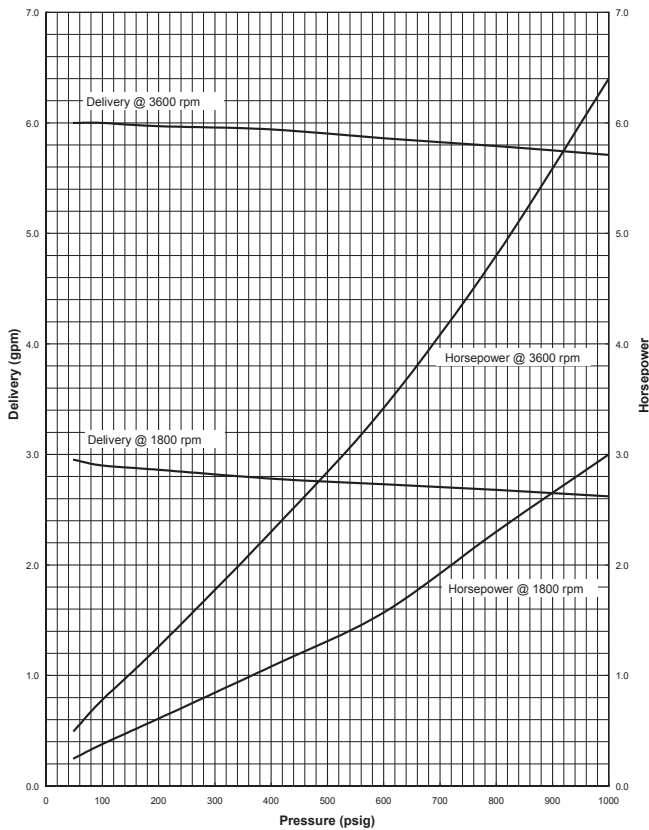

Figure 8. 0.425 cipr Charge Pump Performance
3. Close needle valve to increase charge pump pressure. Compare flow readings to the applicable charge pump performance plot. Refer to **Figures 8 and 9**.
2. Remove the rotating group by turning the drive shaft (1) slowly, while pulling the cylinder barrel (18) from the housing.
3. Identify (number) each pump piston shoe assembly (15) and its respective bore in the cylinder barrel (18) and shoe retainer (14) for easy re-assembly.
4. See Figure 8. Lift out shoe retainer (14) with pistons (15) and remove the fulcrum ball (16) and shoe retainer spring (17).